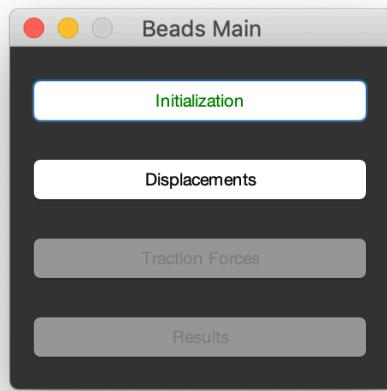
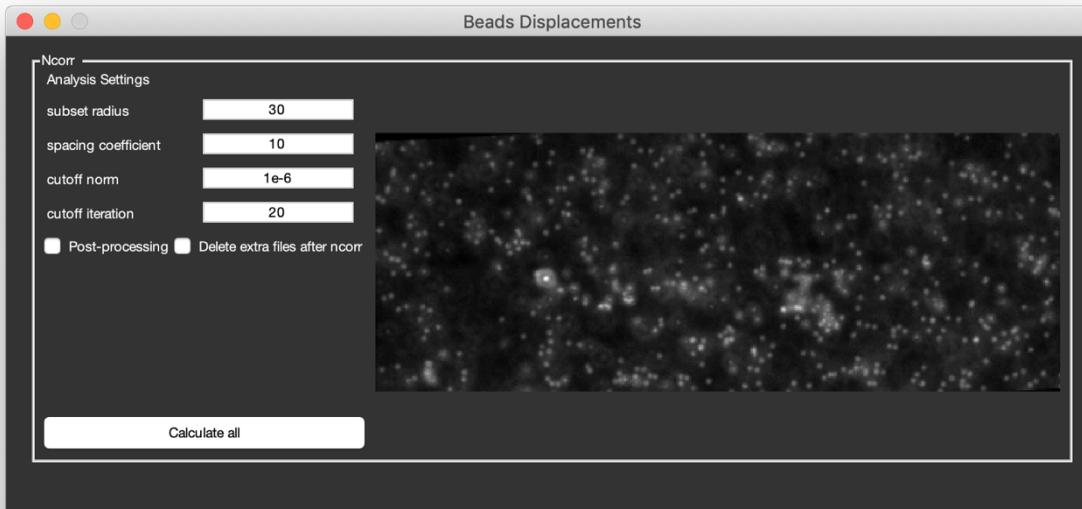

FIGURE 14 AFTER INITIALIZATION IS COMPLETED, THE DISPLACEMENT STEP IS ENABLED
FIGURE 15 DISPLACEMENT PANEL
1. In the main panel (Figure 14), launch the initialization panel by clicking on the *Initialization* button (Figure 15).